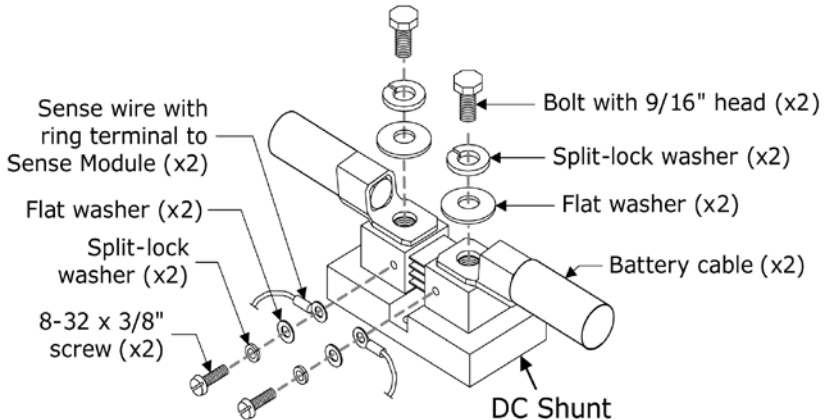

Figure 2-2, DC Shunt Connections
2. Wire the other side of the DC Shunt (battery side) to the battery negative terminal. Connect cables/hardware to the shunt exactly as shown in figure 2-2.